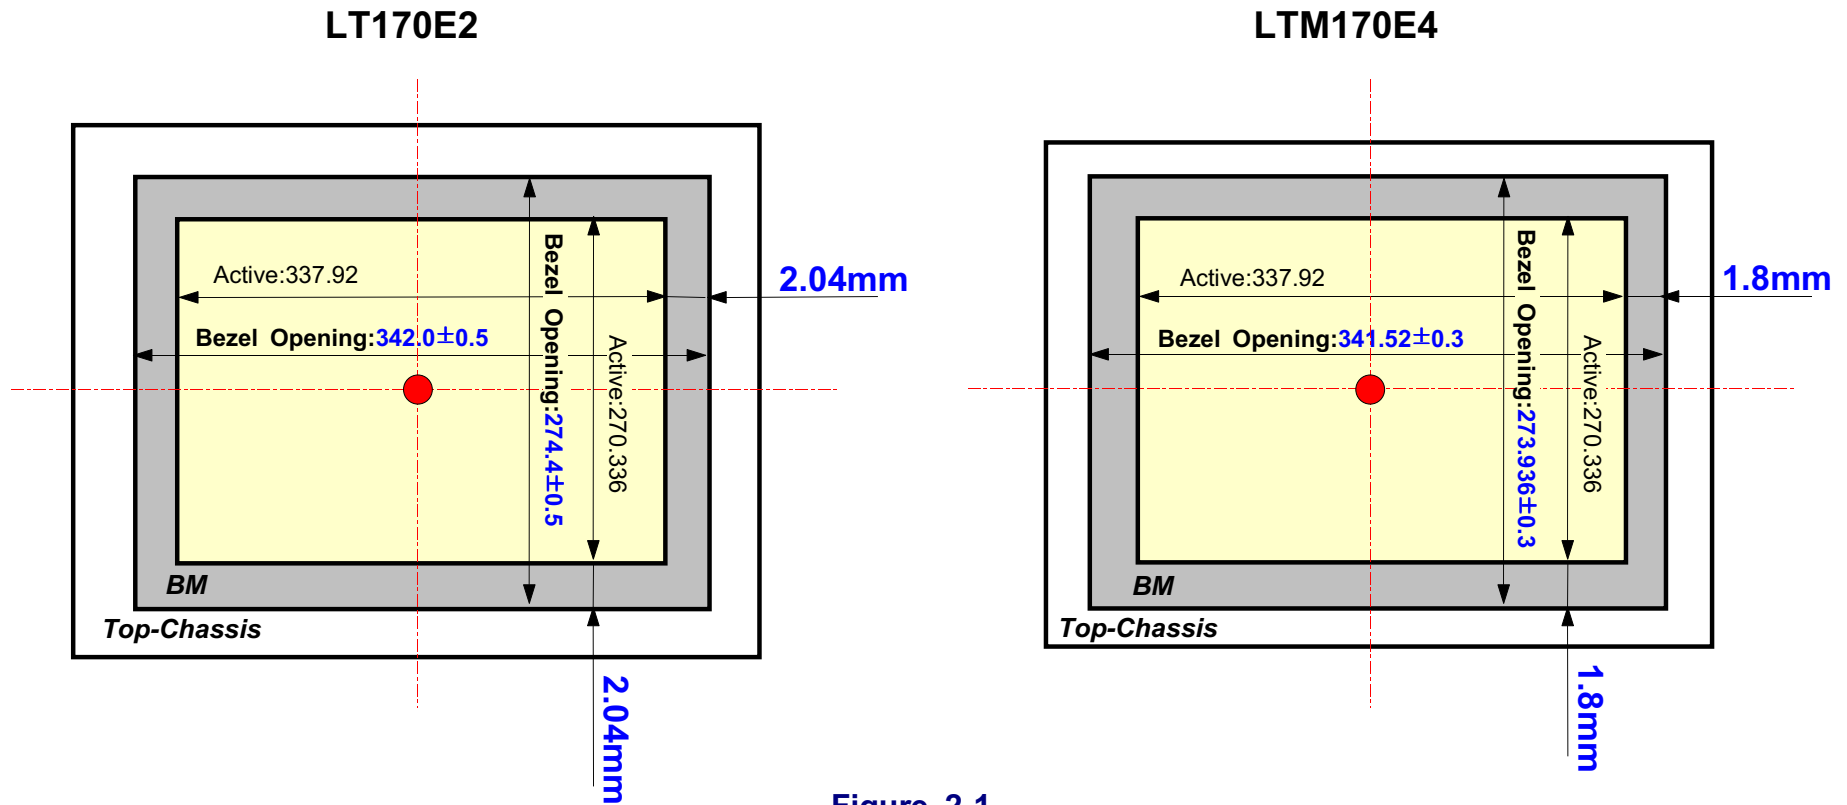

Figure 2-1
- Therefore, Horizontal and vertical width of B/M (margin between top-chassis and active area) is reduced from 2.04mm to 1.8mm.  Refer to the Figure 2-1